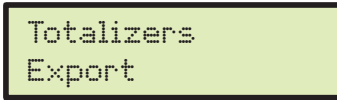

Fig. 78
- It is possible to save the totalizer reports on pendrive using the relevant function **Export** (Fig. 78).
- Select **Export** (Fig. 78) and press **OK**.